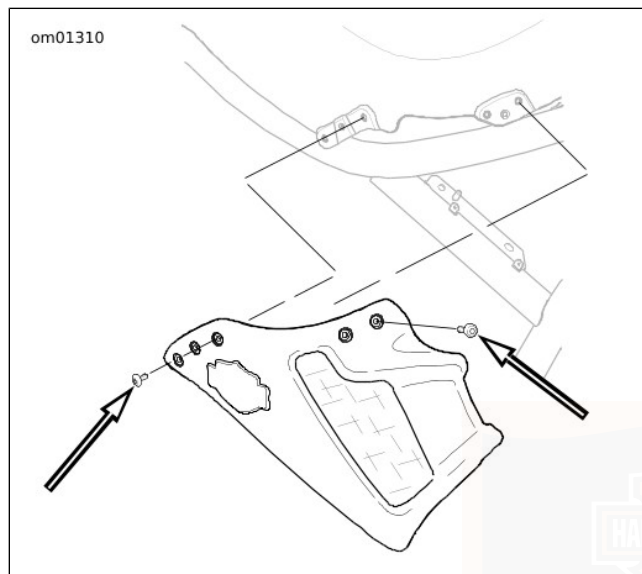

Figure 41. Front Side Cover Screws: VRSCF Model
1. See Figure 41. Remove five screws from front side cover.
1. See Figure 41. Orient the air inlet toward the front of the vehicle and align grommet in side cover with the mounting pin on frame. Press side cover to engage mounting pin.